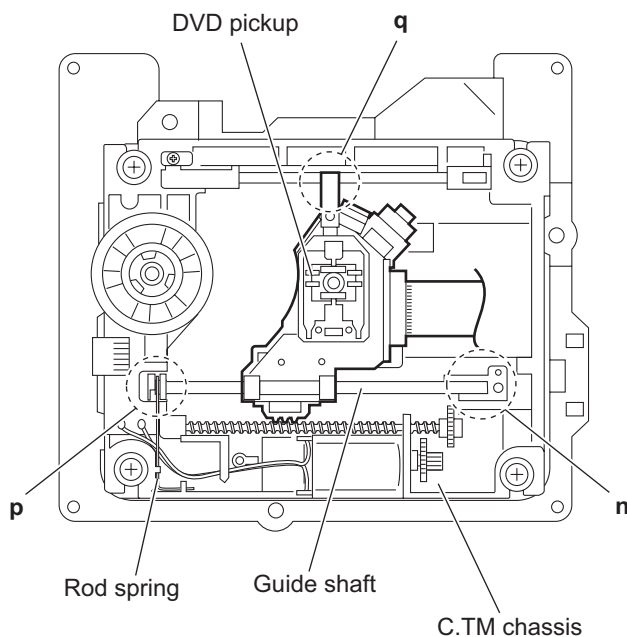

Fig.13
- (5) Remove the guide shaft from the sections (**n**, **p**) on the C.TM chassis. (See Fig.13.)
- (6) Remove the section **q** of the DVD pickup. (See Fig.13.)
- (2) Attach the section **q** of the DVD pickup to the C.TM chassis first and attach the guide shaft to the sections (**n**, **p**). (See Fig.13.)
When attaching the guide shaft to the section **p**, attach it under the rod spring. (See Fig.13.)